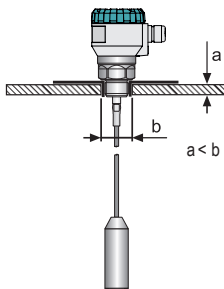

Fig. 8: Installation on the roof of the concrete silo
- When installing the level meter into the roof of a concrete silo, the level meter installation hole b must be larger than the thickness of the concrete a , see fig. 8.